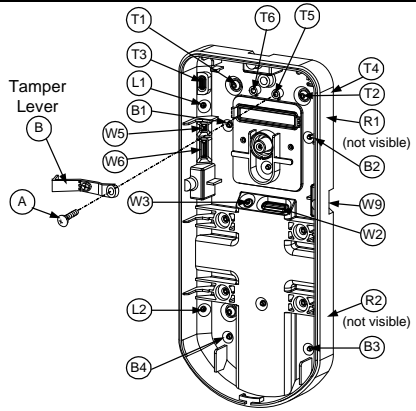

Figure 3
Open knockouts on external base (Figure 3).
- a. Open knockouts on external base (Figure 3)
- d. Insert Tamper lever B onto T5 and T3 and secure screw A (Figure 3).
4. Insert external wires through external base W2, W3 (Flat Mounting) or W5, W6 (Left side mounting) (Figure 3).
Aprire i fori a sfondare della base esterna (fig. 3)
a. Aprire i fori a sfondare della base esterna (fig. 3)